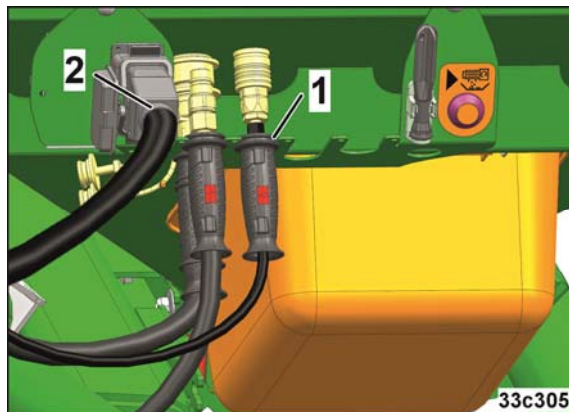

Fig. 45
- o Hydraulic hose lines (Fig. 45/1, see section "Uncoupling the hydraulic hose lines", Seite 64)
- o Data cable parking position (Fig. 45/2)